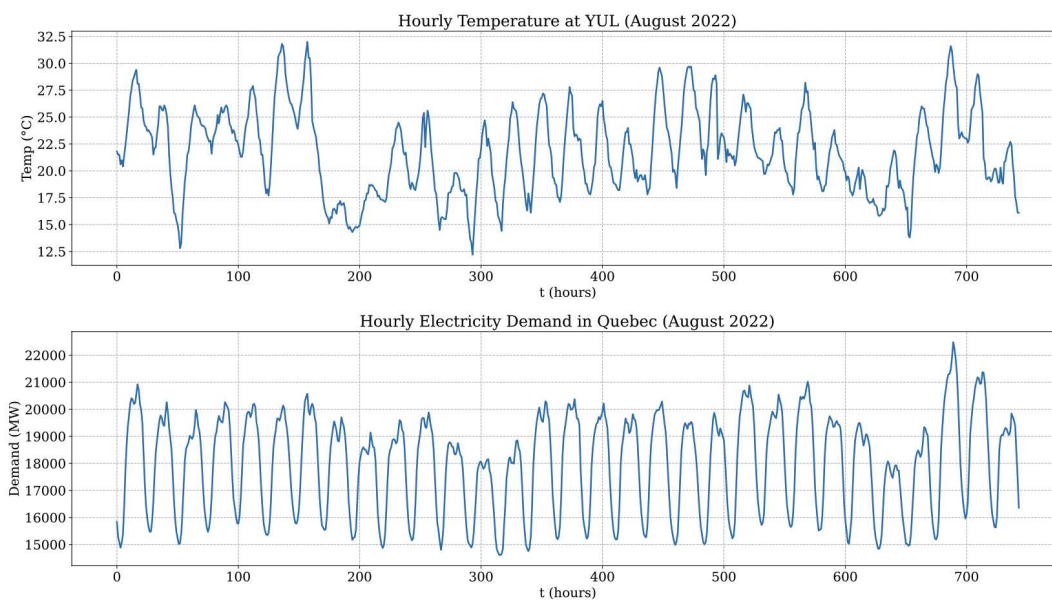

Figure 1: (Top) Hourly temperature data recorded at YUL, 2022-08-01 to 2022-08-31. (Bottom) Hourly electricity demand in Québec, 2022-08-01 to 2022-08-31.
Figure 1 shows the hourly temperature data recorded at Montréal-Pierre Elliott Trudeau International Airport (YUL) and hourly electricity demand data in Québec for the month of August 2022. The AR model can be used to predict the data (be it temperature or electricity demand) 1 hour ahead given the data from the previous N hours, which is done by finding β_i 's in (1), given y_1, y_2, \dots, y_N .